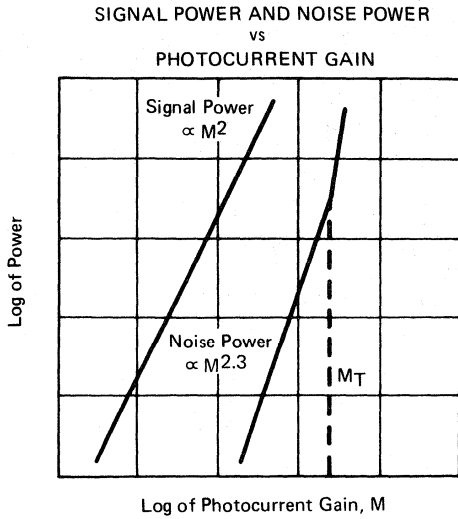

FIGURE 1
3. Gain MT is measured at the reverse voltage at which the noise deviates from the theoretical linear characteristic. See Figure 1. Radiant flux is as required to give a photocurrent of 0.1 nA rms at VR = 40 V.